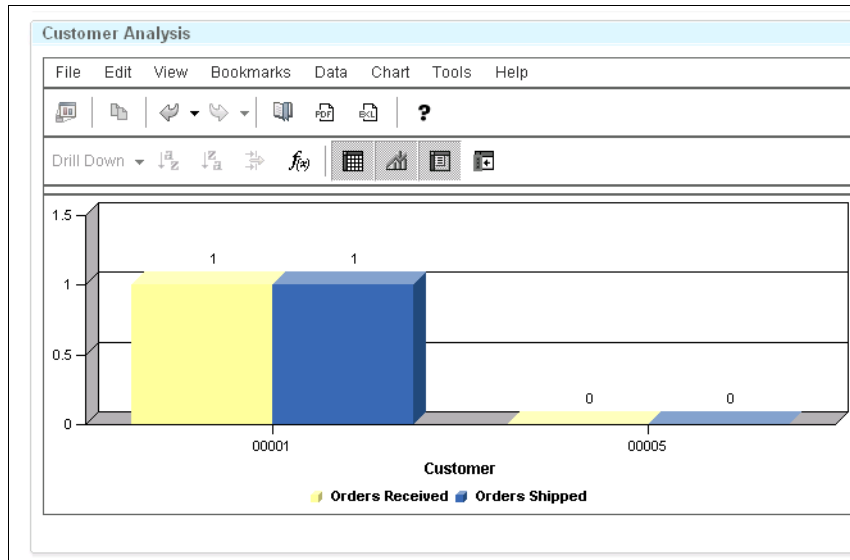

Figure 8-102 Customer analysis
19. Return to the Key Performance Indicators - Orders tab and we see which of our customers have been placing orders (customer 0005 has made queries as we have seen earlier, but our analysis shows that he has not yet made any purchases.) See Figure 8-102 on page 296.